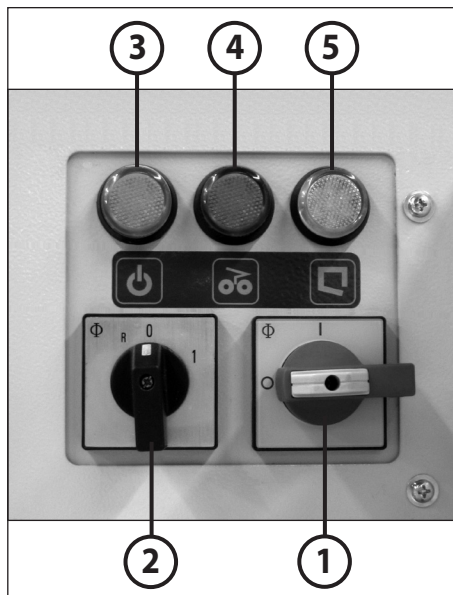

fig. 7
Redistribute returned material and continue shredding with a smaller amount of material. The machine must first be switched off with the rotary switch (2) (fig. 7) (position „0“), and then back on again (position „1“) to this end.
When the collecting bag is full, the machine turns off automatically. The pilot lamp (5) (fig. 7) lights up. Empty the collecting bag as follows:
- Open the door only a little bit (10) and level off the cone of shredded material, which has accumulated in the bag, with your hand.
1. Briefly turn the "cutting system reverse" switch (2) (fig. 7) to position "R". The cutting system and the conveyor belt run in reverse. The material is released and returned by the conveyor belt.
2. Redistribute the returned material, or remove some of it from the conveyor belt (12).
3. After allowing the motor to cool down for approximately 10 minutes (depending upon ambient temperature), the machine can once again be started in the forward direction and shredding can be continued (rotary switch (2) (fig. 7) in position "1").
The machine is equipped with a thermally protected motor. Should this motor be overloaded, it will switch off automatically. In such case the pilot lamp „MOTOR FAULT“ (4) (fig. 7) flashes.
If the control display (5) (fig. 7) lights up and the control display (4) (fig. 7) blinks at the same time, one of the integrated **contactors is no longer functional** and the machine **may no longer be operated**.